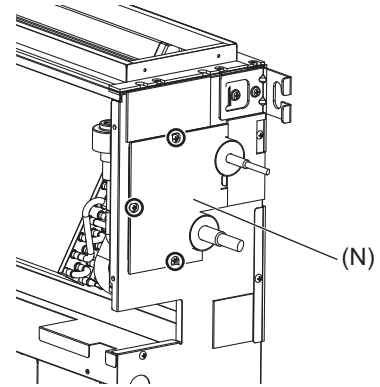

Fig.17
- (1) Remove the three fixing screws on the cover (N) to remove it. (Fig.17)